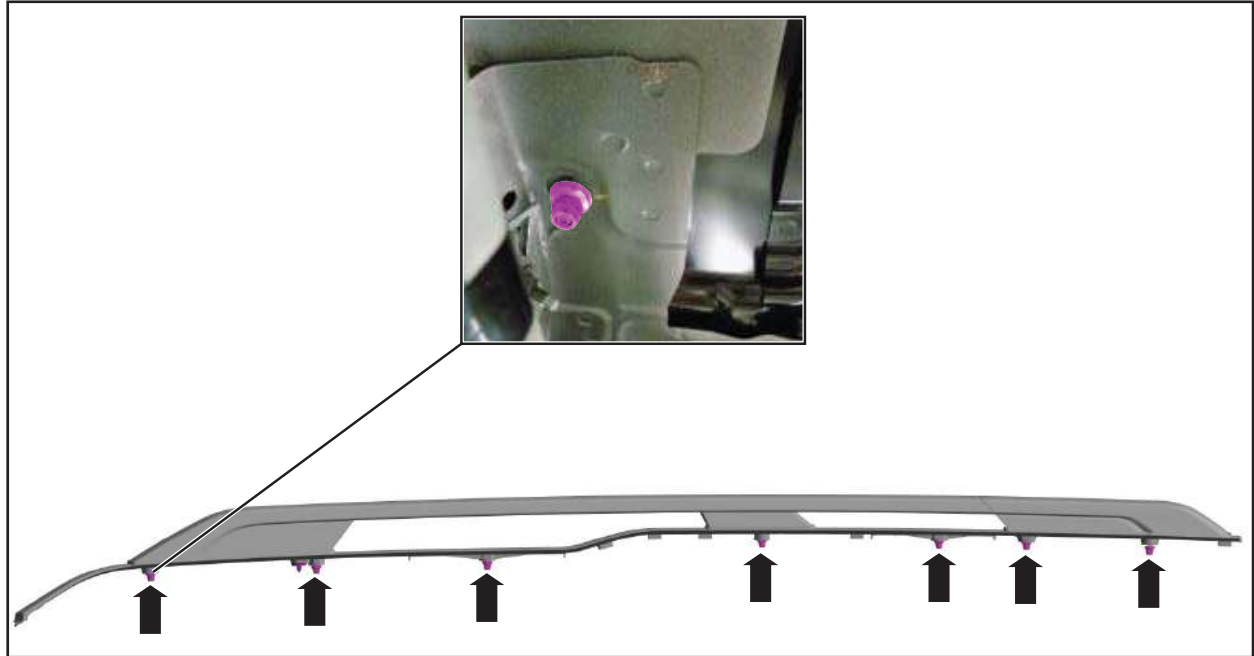

FIGURE 45
45. Install the LH side rail nuts from inside the vehicle. See Figure 45.